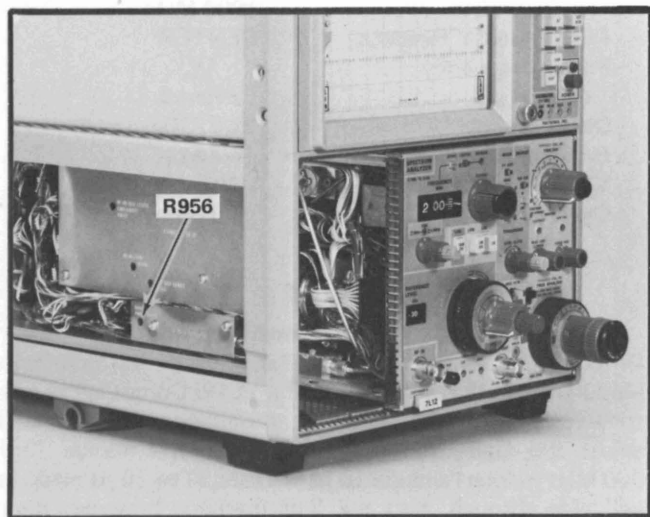

Fig. 4-13. Location of R956, calibrator output level adjustment.
d. Change the marker output of the time mark generator to 10 ns and locate the 1800 MHz marker. Adjust the Center Freq Upper Limit R1441 (Fig. 4-13) to center the 1800 MHz marker on the graticule. Decrease the FREQ SPAN/DIV to 2 MHz for the final adjustment of R1441. Note: Remember to approach the 1800 MHz FREQUENCY readout from the low side.
4) The calibrator output level can be adjusted by removing the left vertical plug-in unit and the oscilloscope left side panel to gain access to the 7L12 calibrator. Adjust R956 (Fig. 4-13) for an output level of -30 dBm (7.07 mV RMS).